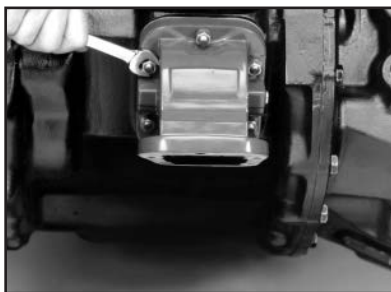

Figure 9
9. Secure the Adapter to the transmission. Use self-locking nuts provided with the Adapter (**Fig. 9**). Torque all flange nuts to their proper specifications.